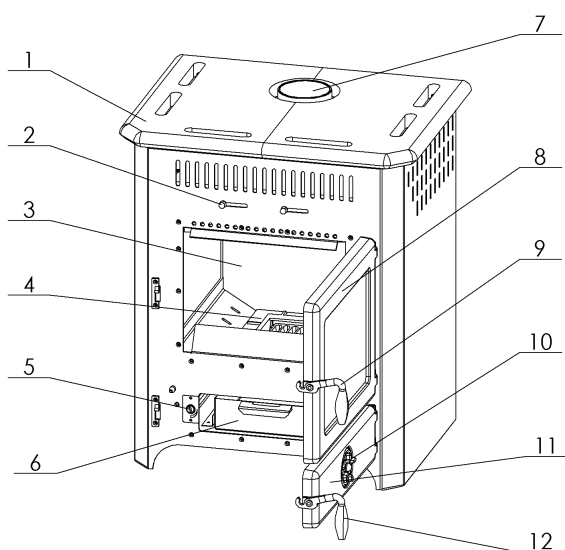

Fig. 1. Integral parts of Thermo Vulkan
Solid fuel stove for central heating **THERMO VULKAN** is produced and tested according to the European standard EN 13240. On figure no. 1 given in the introduction page, layout of the stove with integral parts important for handling is displayed. Floor oven Thermo Vulkan has boiler of 24 liters capacity which is made of boiler sheets with standard thickness. With production like this, life span of the boiler increases. Water connections are 1". Working area is consisted of cast plate (fig. 1, pos. 5) with smoke exhaust connection (fig. 1, pos. 7) which is mounted on the plate with two screws. Firebox area is built with bricks made of vermiculite. Firebox door (fig.1, pos.8) are made of cast iron and has transparent glass. Ashtray door (fig.1, pos.11) are made of cast iron and has manual air flow regulator.